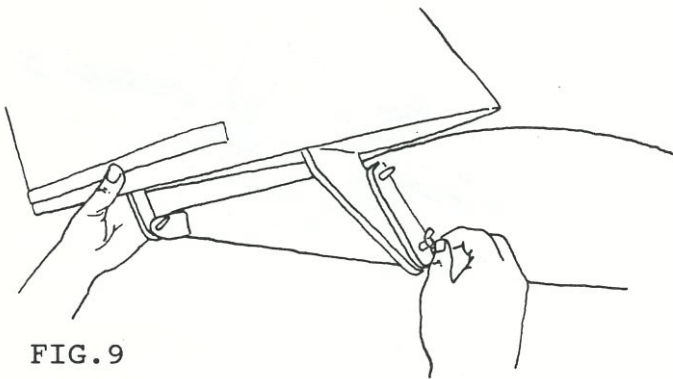

FIG. 9
9. While removing the winglets from the box, carefully note how they are packed as they only fit in one way. Mount the winglets by removing the wingnut and safety, and lining up the winglet spar pins with the holes in the mounting spars on the wing tip. Slide the winglet forward engaging the pins fully, and attach the wingnut and safety.(fig.9)